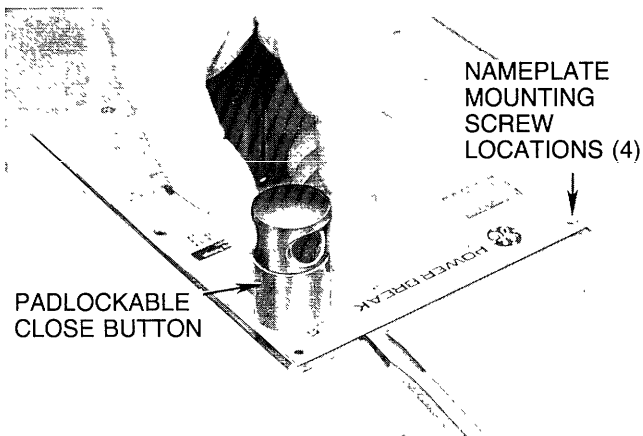

Figure 5.
4. Insert padlockable button as shown in Figure 5, passing stop pin thru notch in nameplate. Press button down and rotate 90° counterclockwise so pin enters slot in breaker cover. Continue holding button down while removing tool used to lift nameplate. Reinstall nameplate mounting screws—**Do not overtighten.**